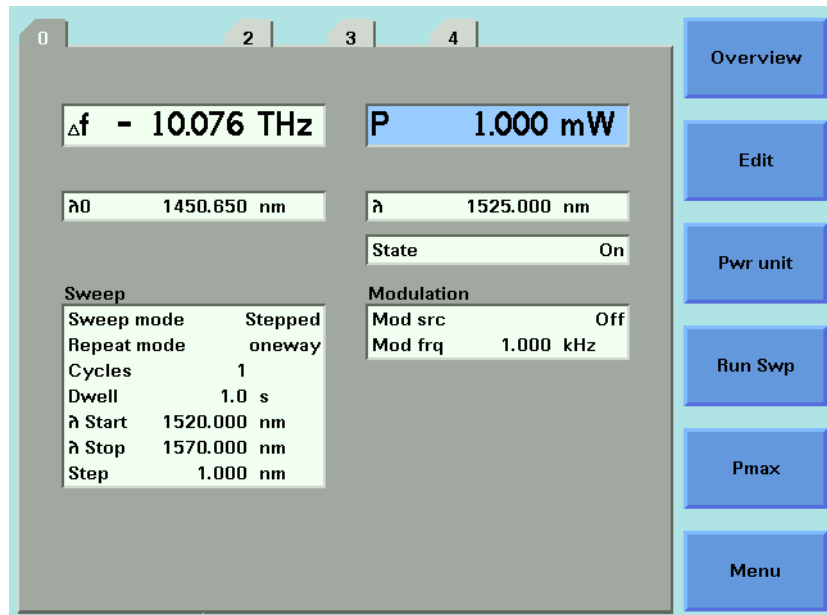

Figure 69 Setting a Relative Wavelength
- 4 Move to <Offset>, by using the cursor key, press *Enter*, and press *Close*. You see the screen in Figure 69 .